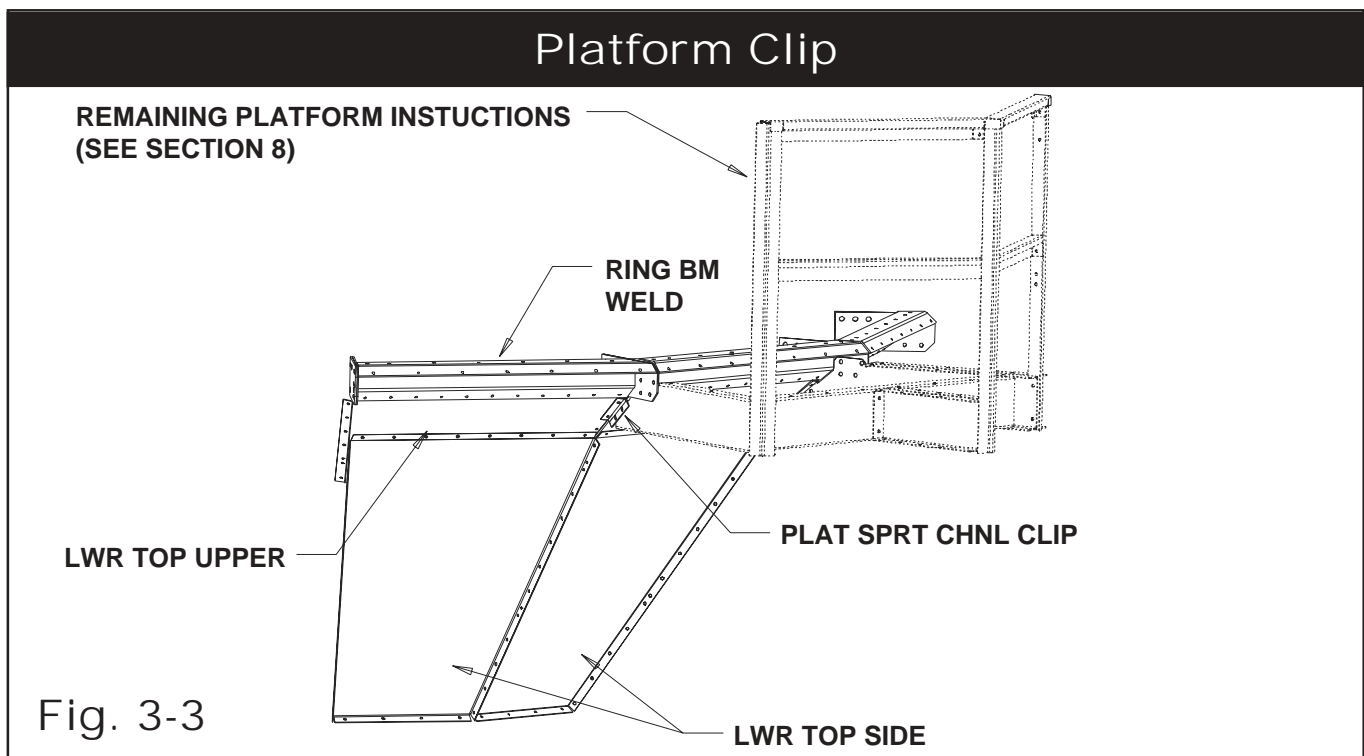

Fig. 3-3
4. For units with integral platforms, locate the **PLAT SPRT CHNL CLIP** and install it through the common seam bolts on the Lower Top Upper cone sheet. The Clip installs to be coplanar with the welded flanges on the Ring Beams. (See Fig. 3-3)